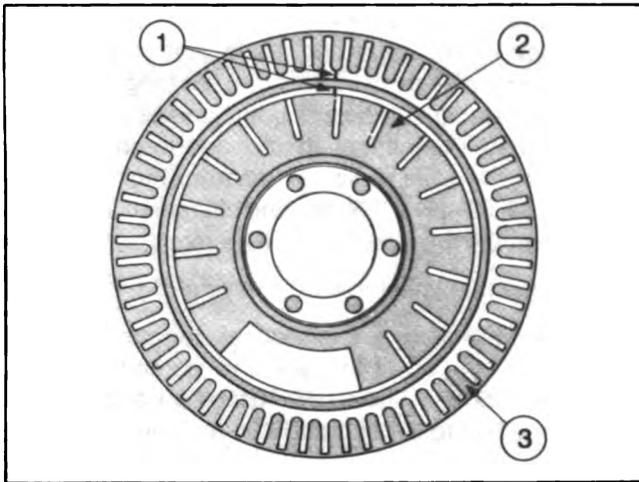

Fig. 2-67. (OM1066L). Vibration damper alignment marks
The damper hub (1, Fig. 2-67) and the inertia member (2) are stamped with an index mark (3) to permit the detection of movement between the two components.